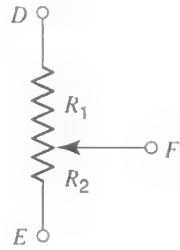

Fig. 6
13. A potentiometer is a voltage divider with a variable division ratio. The symbol for this element is shown in Fig. 6. The total resistance between terminals D and E is constant. The resistance between F and D is  $R_1$ , and that between F and E is  $R_2$ . The arrow represents a slider, which can slide up and down the length of the potentiometer. (Many practical potentiometers have the resistance laid out over part of a circle, and the slider must be rotated rather than moved up and down.) Thus, the values  $R_1$  and  $R_2$  can be varied, while their total resistance,  $R_1 + R_2$ , stays fixed.1 In this way, a variable voltage divider can be implemented, as is evident from eq. 4. Use the ohmmeter to study the potentiometer provided to you. Do *not* connect anything else to the potentiometer in this step. Identify the terminals D, E, and F, and determine the minimum and maximum values of  $R_1$ ,  $R_2$ , and  $R_1 + R_2$ .
1Potentiometers in which  $R_2$  varies in proportion to the slider's displacement from the bottom position in Fig. 6 are called *linear* potentiometers. Another variety is *logarithmic* potentiometers, in which  $\log R_2$  is proportional to the above displacement. These are appropriate for use in volume-control circuits because the perception of loudness follows a logarithmic law.